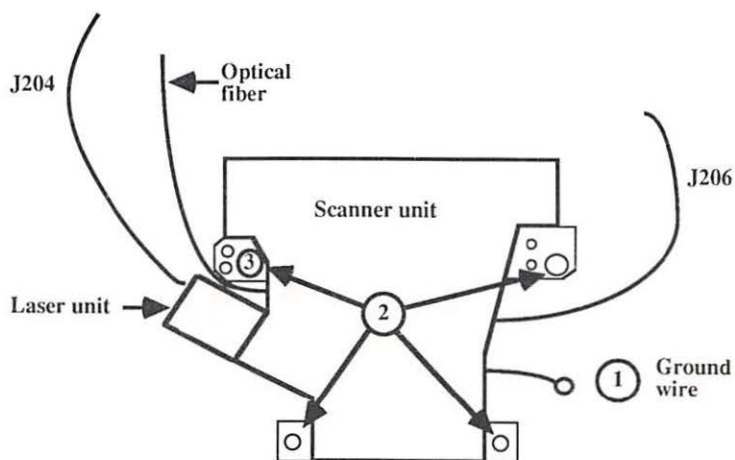

FIGURE 2-8
2. Unplug connectors J203 (the optical fiber), J204, and J206 from the DC Controller board (see Figure 2-8).
3. Disconnect the ground cable (see Figure 2-8, #1). Make sure to capture the star washer under the lug.
4. Remove the four large mounting screws (see Figure 2-8, #2). Make sure to remove the spacer and washers with the long screw nearest the laser (Figure 2-8, #3).
3. Replace the four large mounting screws. **NOTE:** The long screw goes through the spacer and washers in the hole nearest the laser unit (see Figure 2-8, #3).